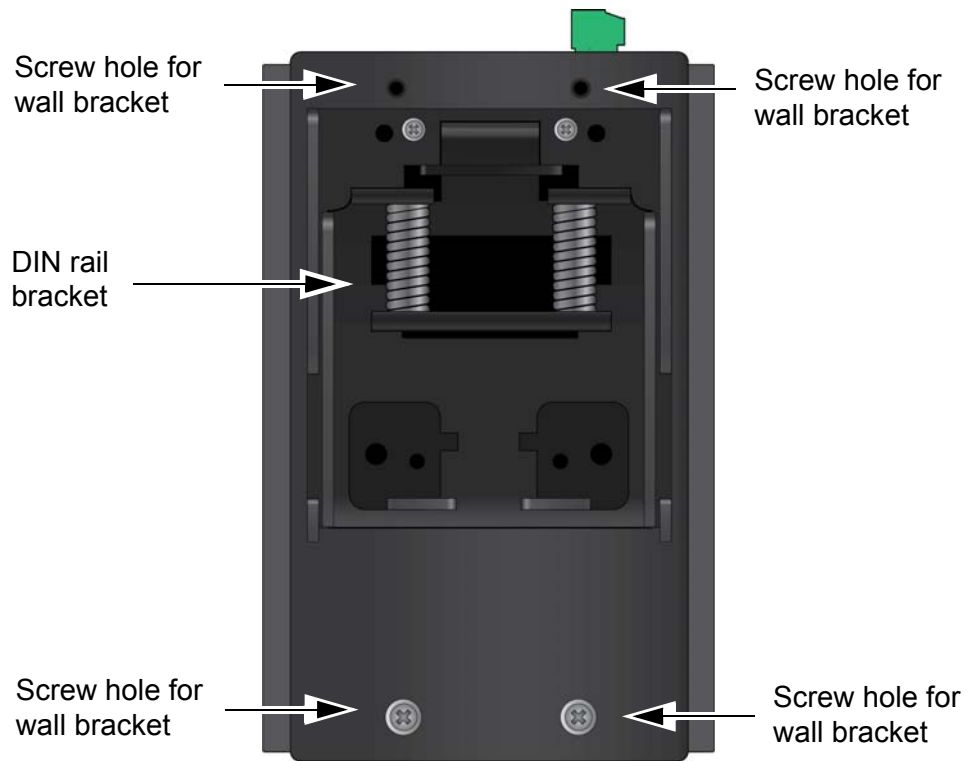

Figure 7. Back Panel
**Back Panel** Figure 7 identifies the components on the back panel.